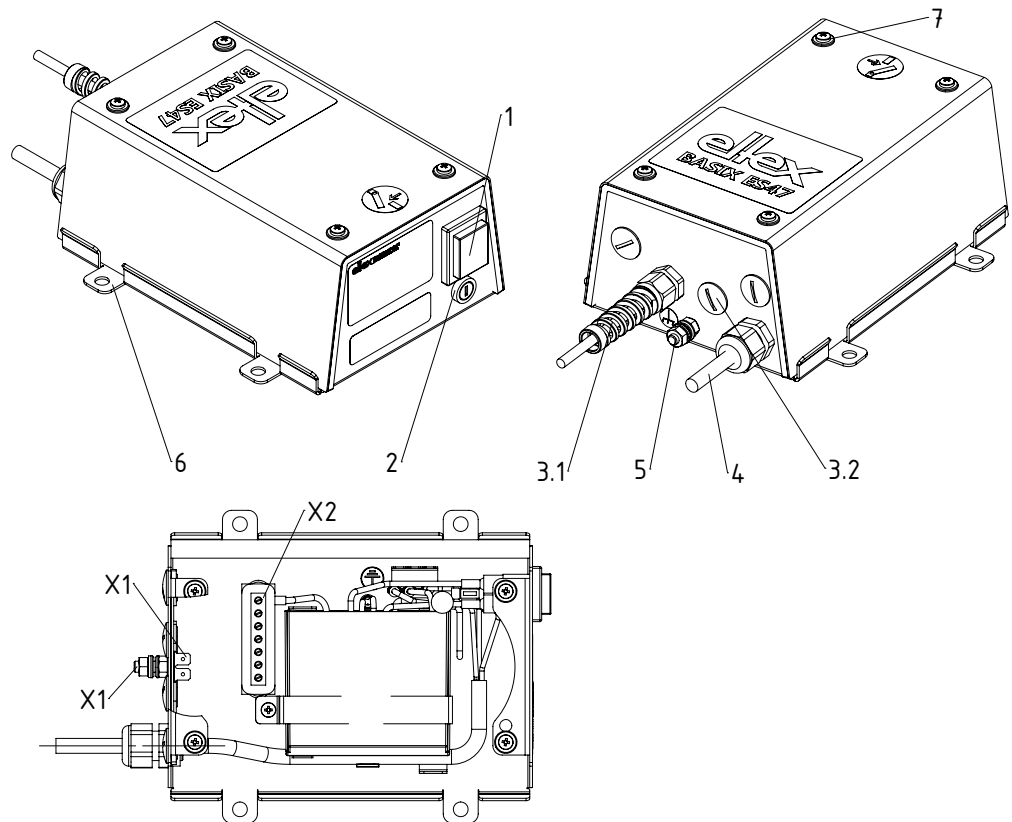

Fig. 1:
- Before starting the unit make sure that the appliance is permanently grounded via the ground connection (5, Fig. 1). The ground cable should have a minimum cross section of 1.5 mm².
A permanent ground connection must be made via the ground connection (5, Fig. 1). The ground cable should have a minimum cross section of 1.5 mm^2 .
- Remove the cover of the power supply (see Fig. 1).
Connect the supply voltage via the power supply lead (4, Fig. 1) using an earthing pin plug (depending on country).
Use the toggle switch (1, Fig. 1) to switch on the power supply. In the ON position the switch lights up green. High voltage is now supplied to the discharging bars.